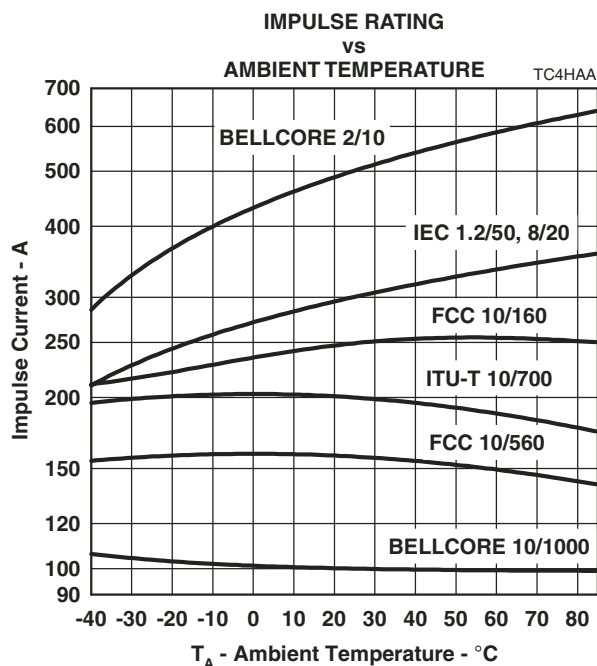

Figure 11.
4. See Applications Information and Figure 11 for current ratings at other temperatures.
If the impulse generator current exceeds the protector's current rating, then a series resistance can be used to reduce the current to the protector's rated value to prevent possible failure. The required value of series resistance for a given waveform is given by the following calculations. First, the minimum total circuit impedance is found by dividing the impulse generator's peak voltage by the protector's rated current. The impulse generator's fictive impedance (generator's peak voltage divided by peak short circuit current) is then subtracted from the minimum total circuit impedance to give the required value of series resistance. In some cases, the equipment will require verification over a temperature range. By using the rated waveform values from Figure 11, the appropriate series resistor value can be calculated for ambient temperatures in the range of -40 °C to 85 °C.